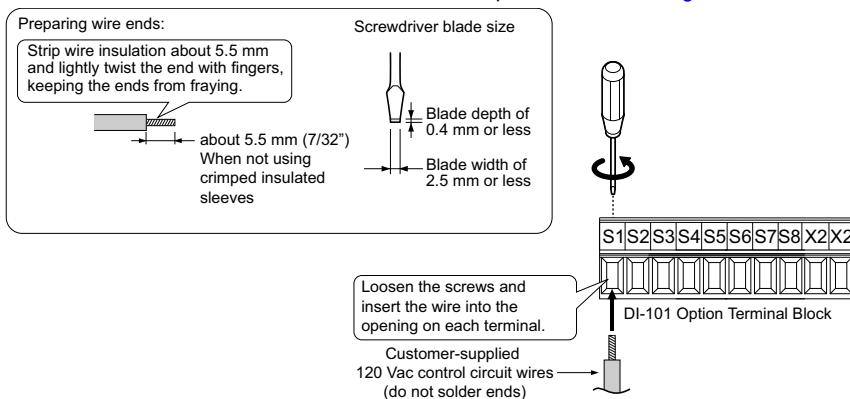

Figure 6.6 Preparing Cable Wiring
5. Ensure the factory installed wire jumper is present between TB1 terminals SC to SP. If no wire jumper is present, prepare and install a jumper according to Figure 6.6. Route the customer-supplied option wiring through one of the cable glands on the A1000 drive bottom conduit bracket.
6. Prepare the external 120 Vac control circuit wires (customer supplied) for terminals S1 to S8 and X2 on the DI-101 option as shown in Figure 6.6.